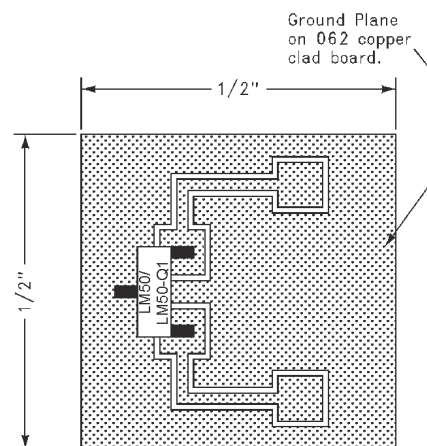

Figure 8-14. Printed-Circuit Board Used for Heat Sink to Generate Thermal Response Curves LM50-Q1 (Legacy Chip)
(1) Part soldered to 30 gauge wire.
(2) Heat sink used is 0.5inch, square printed-circuit board with 2oz foil; part attached as shown in Figure 8-14.